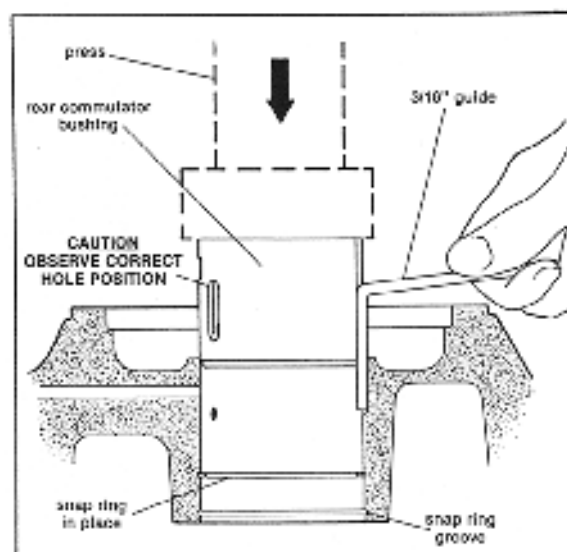

Figure 28. Installing Rear Commutator Bushing.
5. To install rear commutator bushing: (see fig 28)
b) Set guide (3/16" diameter rod bent to a right angle) as shown to insure line up of spring pin grooves in housing bore and commutator, see fig.28. Observe proper hole configuration as shown in illustration.